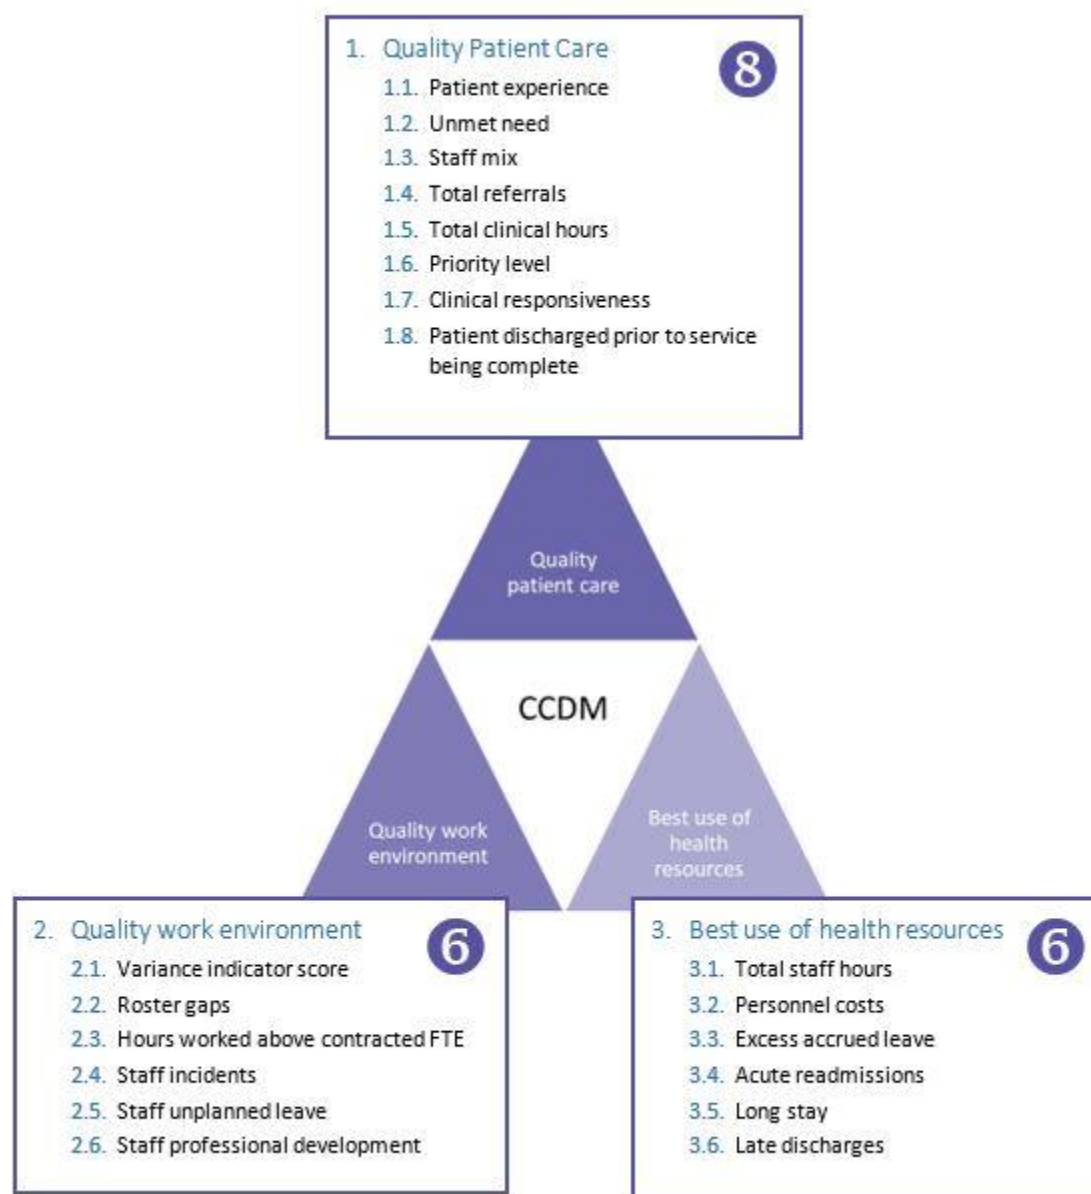

Figure 1 – Distribution of allied health core data set measures across the 3 equally weighted domains of CCDM
The allied health core data set (CDS) is made up of twenty (20) measures (see figure 1). These have been selected, defined and ratified by the Safe Staffing Healthy Workplaces Unit, National Directors of Allied Health and other sector stakeholders. A DHB may choose to use additional measures that are relevant locally.